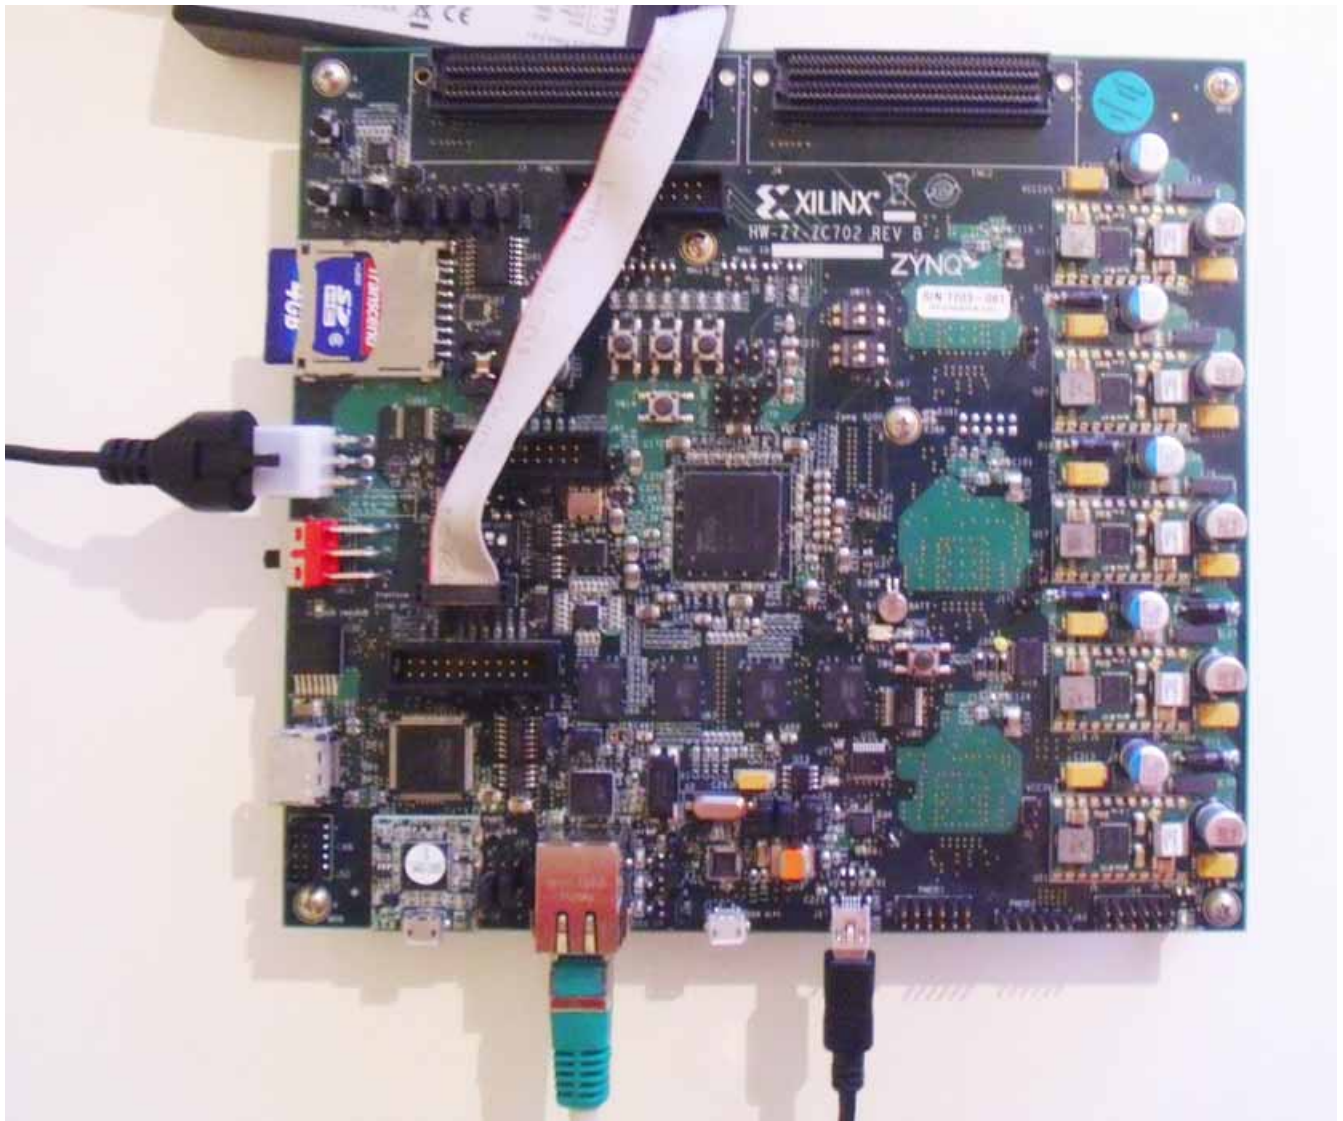

Figure 9: Image of SD Card and USB Connection
2. Put the SD Card in the SD card pole of the board. Ensure that the switches for booting from SD Card are in the right position. Ensure that the settings of Jumpers J27 and J28 are the same as shown. Move the DIP-Switches 3 and 4 of SW 16 to the left (this sets the switches to 1) (Figure 9, page 13).